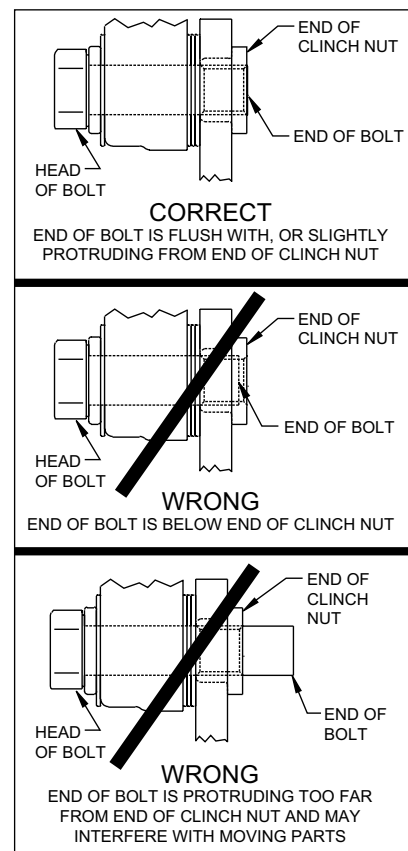

Figure 4.
shims (19) placed between the caliper mounting bracket (1) and the caliper spacer (18). Use as many shims as necessary to obtain the correct alignment. Finger tighten. **NOTE:** *The end of the bolt must be flush with or slightly protruding from the head of the clinch nut.* See Figure 4. Place spare shims (19) between washer and caliper mounting ear to achieve the proper mounting fastener configuration. Always use the same amount of shims on both the top and bottom caliper mounting bolts (17). Apply red *Loctite® 271* to bolt threads (17) and torque to 40 ft-lb. Caliper mount bolts may be safety wired for additional security.
- Install the disc brake pads (20) and secure using cotter pin (21).